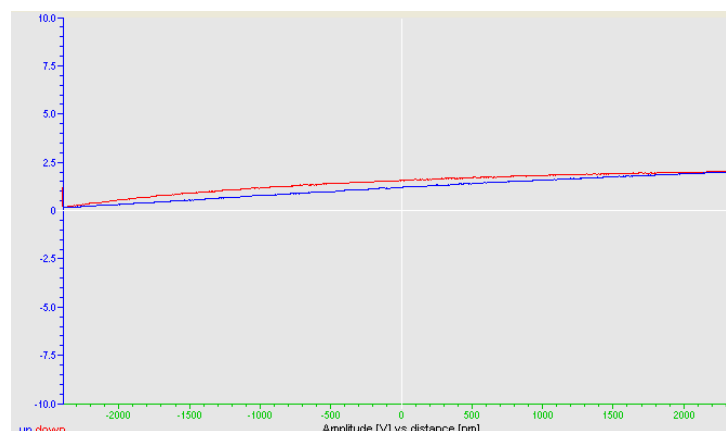

Fig. 6.7 Amp-distance curve showing an instance when there is no amplitude reduction for the full length of the sweep
- Fig. 6.7 shows a case where the cantilever does not interact with the surface even when the piezo is extended up to the end of its user-defined range. The a-d curve in this case is just a sloping straight line and the shoulder indicating the reduction of amplitude is absent.